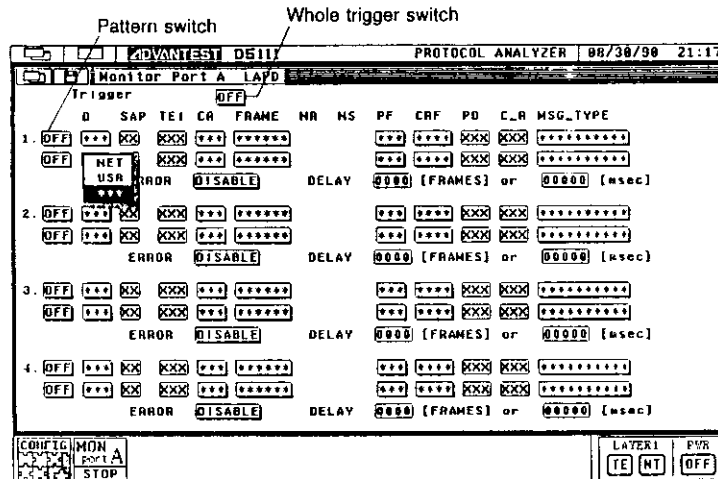

Fig. 2-4 Trigger switch setting
The third-line  OFF or  ON display from the top of the screen is used for a whole trigger switch (see Figure 2-4).
The "D" in Figure 2-4 is used to set the frame direction.
The "SAP" in Figure 2-4 is used to set the frame SAPI.
The "TEI" in Figure 2-4 is used to set the frame TEI.
The "CR" in Figure 2-4 is used to set the frame command or response.
The "FRAME" in Figure 2-4 is used to set the type of a frame.
(9) NR/NS setting
The "NR" and "NS" in Figure 2-4 are used to set the receive sequence number N (R) and send sequence number N (S).
(10) PF bit setting
The "PF" in Figure 2-4 is used to set the pole and final bits.
The "CRF" in Figure 2-4 is used to set the call number flag of layer 3.
The "PD" in Figure 2-4 is used to set the protocol identifier.
The "C R" in Figure 2-4 is used to set the call number of layer 3.
The "MSG TYPE" in Figure 2-4 is used to set the type of a message in layer 3.
The "ERROR" in Figure 2-4 is used to set the error mode.
The "DELAY" in Figure 2-4 is used to set the number of frames and the timer time.